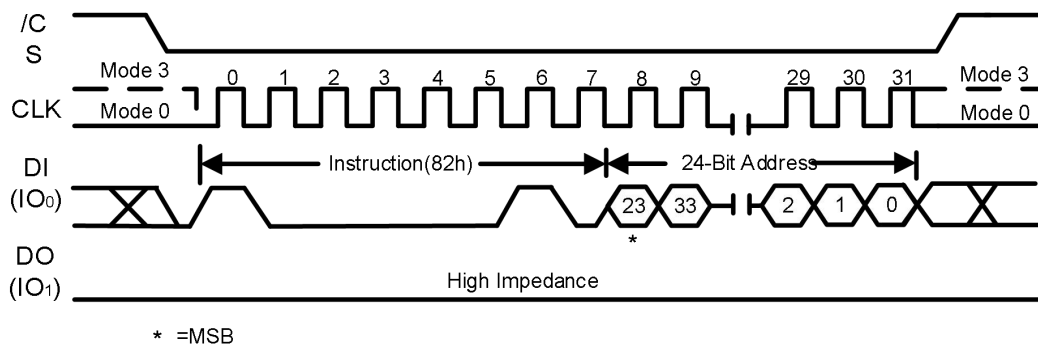

Figure15. Mini Sector Erase Sequence Diagram
The Mini Sector Erase command sequence: CS# goes low → sending Sector Erase command → 3-byte address on DI → CS# goes high. The command sequence is shown in Figure15. CS# must be driven high after the eighth bit of the last address byte has been latched in; otherwise the Mini Sector Erase (MSE) command is not executed. As soon as CS# is driven high, the self-timed Mini Sector Erase cycle (whose duration is t_{MSE}) is initiated. While the Mini Sector Erase cycle is in progress, the Status Register may be read to check the value of the Write in Progress (BUSY) bit. The Write in Progress (BUSY) bit is 1 during the self-timed Mini Sector Erase cycle, and is 0 when it is completed. At some unspecified time before the cycle is completed, the Write Enable Latch (WEL) bit is reset. A Mini Sector Erase (MSE) command applied to a sector which is protected by the Block Protect (SEC, TB, BP2, BP1, and BP0) bit (see Table 1-6) is not executed.
The Sector Erase command sequence: CS# goes low → sending Sector Erase command → 3-byte address on DI → CS# goes high. The command sequence is shown in Figure15. CS# must be driven high after the eighth bit of the last address byte has been latched in; otherwise the Sector Erase (SE) command is not executed. As soon as CS# is driven high, the self-timed Sector Erase cycle (whose duration is tSE) is initiated. While the Sector Erase cycle is in progress, the Status Register may be read to check the value of the Write in Progress (BUSY) bit. The Write in Progress (BUSY) bit is 1 during the self-timed Sector Erase cycle, and is 0 when it is completed. At some unspecified time before the cycle is completed, the Write Enable Latch (WEL) bit is reset. A Sector Erase (SE) command applied to a sector which is protected by the Block Protect (SEC, TB, BP2, BP1, and BP0) bit (see Table 1-6) is not executed.